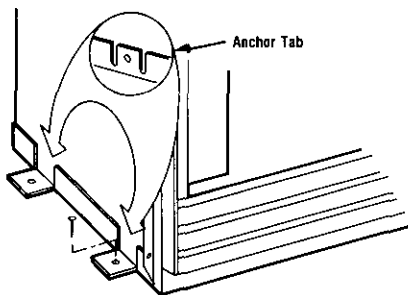

Figure 9
Step 4: Fireplace may be anchored to floor. Bend down four (4) anchor tabs located at base of fireplace and secure to floor with screws or nails (see Figure 9).